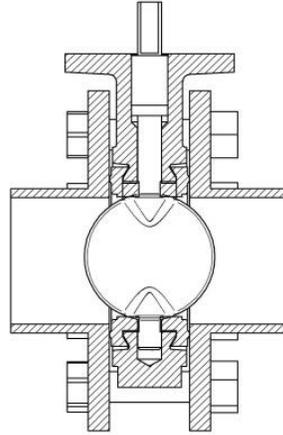

FIGURE 3. VALVE IN THE FULL OPEN POSITION
- Slowly move the valve to the "full open" position (Figure 3) and back to the partially open position ensuring that the disc moves freely without any obstruction. If no obstruction is encountered, return the valve to the full open position and hand tighten all flange bolts using the bolt tightening sequence shown in Figure 4.